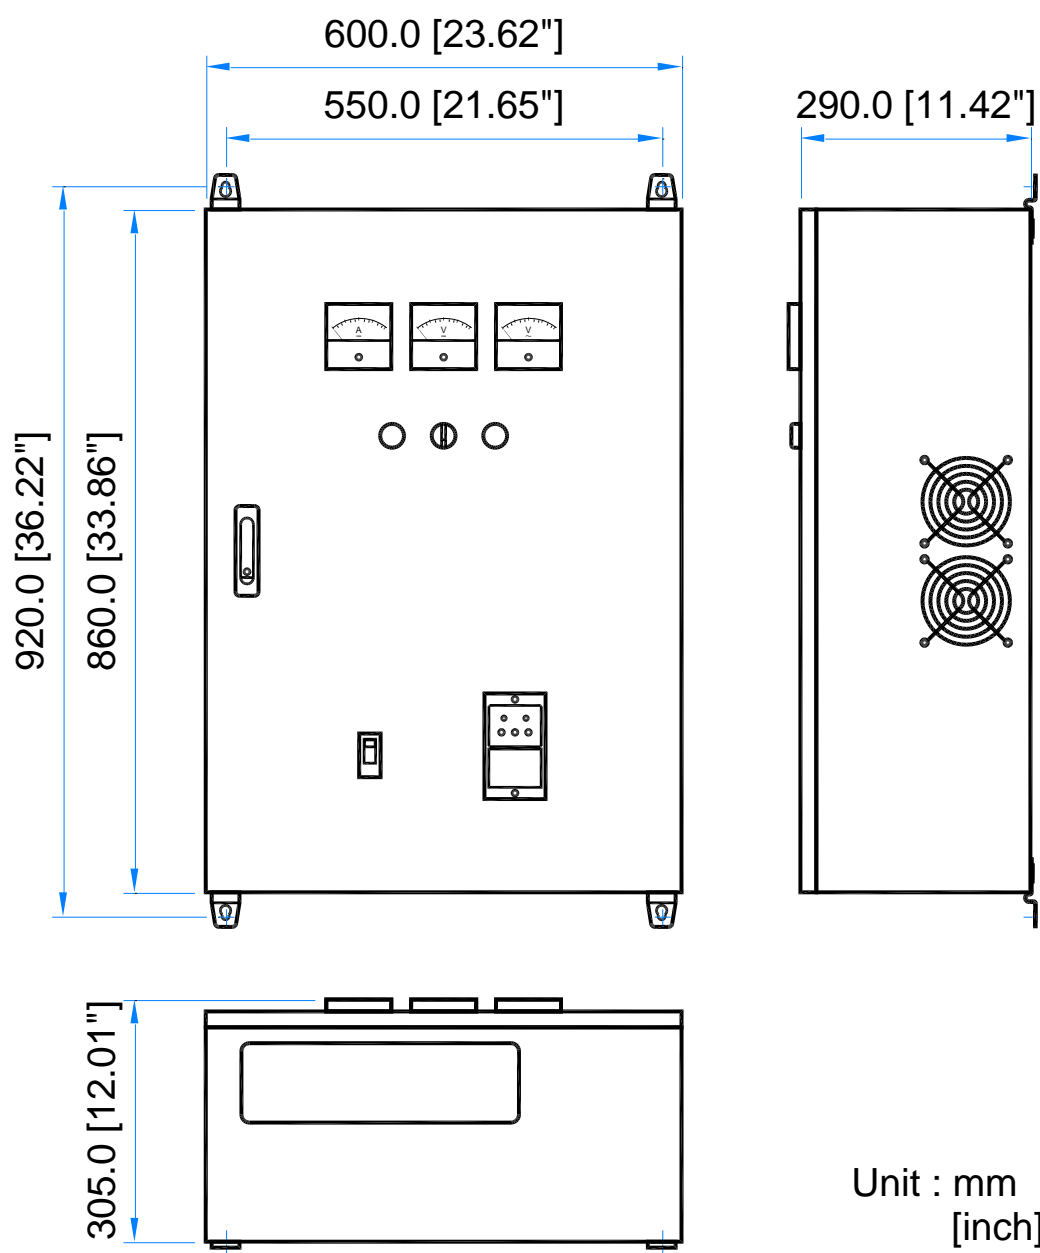

Figure 1. Outline Drawing
- ※ AVR could be installed in any suitable locations of the generator sets, the appearance and fixing holes are as (Figure 1), avoid high temperature, moisture, and location where AVR cannot be easily reached.